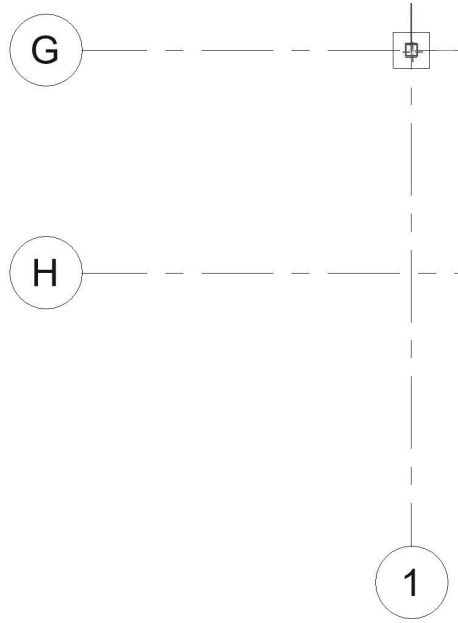

Figure 7–49
8. Select the start point by snapping to the **G1** grid intersection, as shown in Figure 7–49.